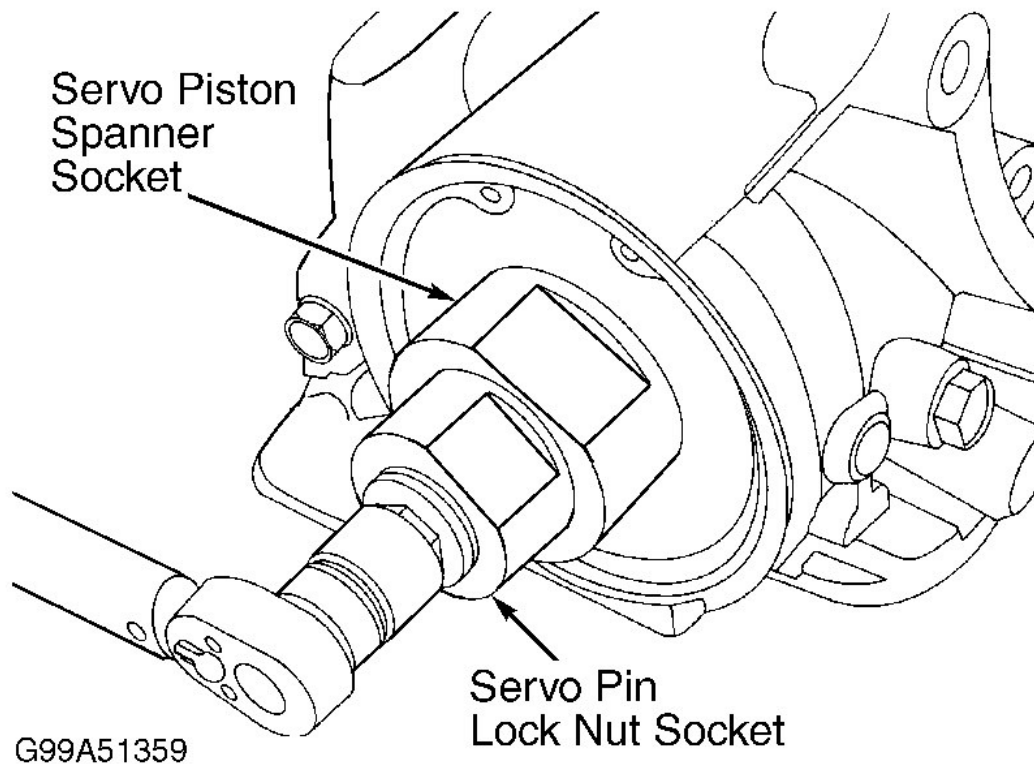

Fig. 9: Adjusting Servo Pin
7. Using an INCH Lb. torque wrench and a shallow 1/2" 6-point socket, torque the Servo Pin Adjusting Socket to 86 INCH Lbs. Loosen the Servo Pin Adjusting Socket 2 or 3 turns and repeat the tightening procedure to 86 INCH Lbs. Loosen again and apply a final torque of 43 INCH Lbs. to the Servo Pin Adjusting Socket. See **Fig. 9**.